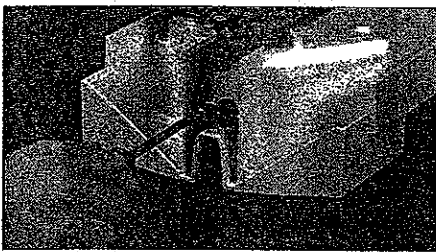

Figure 73
3. Remove the two (2) 6-32x3/8" Phillips pan-head screws to separate the transducer and transducer cap from the enclosure as illustrated in Figure 73.
4. Install the two (2) 6-32x3/8" Phillips pan-head screws and attach the transducer/cap to the front enclosure as illustrated in Figure 73. Ensure that the transducer cable will not get pinched when the rear enclosure is attached.